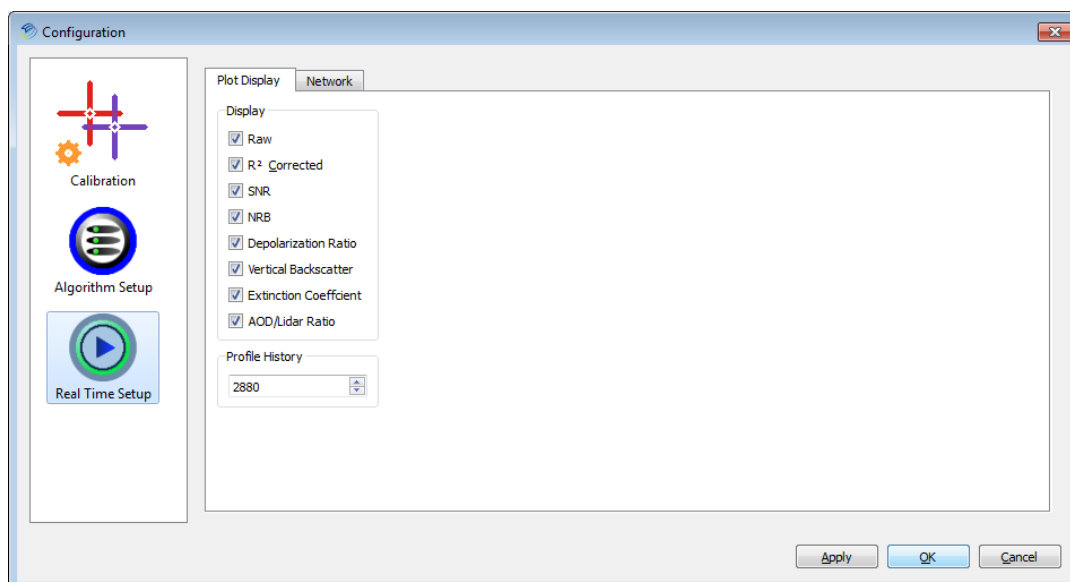

Figure 4: Real Time Hardware Control Setup Plot Display Parameters
4.3.1 In *Real Time Hardware Control* mode, some tabs will not show up by default. To configure the Real Time tabs, select **Configure→Real Time Setup** and check all of the desired display options under “Plot Display”. You can also select the profile history number to display (Figure 4).